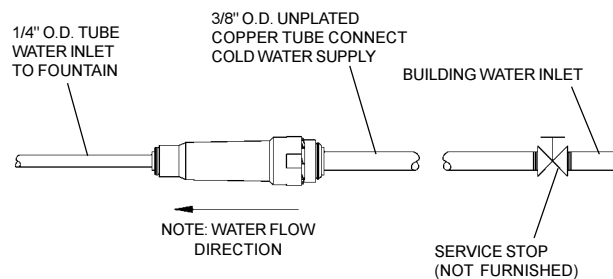

FIG. 6
3. Connect fountain to supply line with a shut-off valve and install a 3/8" unplated copper water line between the valve and the cooler. Remove any burrs from outside of water line. Push the tubes straight into the fittings until they reach a positive stop, approximately 3/4" (See Fig. 6). **DO NOT SOLDER TUBES INSERTED INTO THE STRAINER AS DAMAGE TO THE O-RINGS MAY RESULT.**